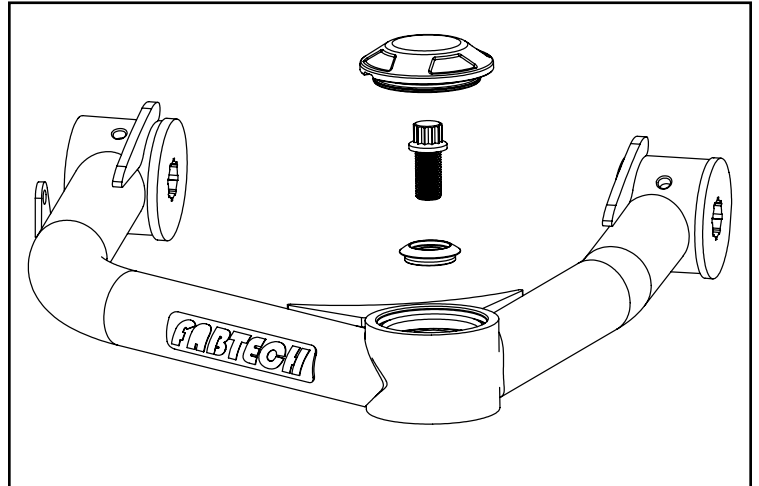

FIGURE 39 - STEP 31
31. Attach the new upper control arm to the knuckle by inserting the FT90152 (Upper misalignment) into the uniball bearing then the 1/2-20 - 12 point bolt. Torque to 120 ft-lbs. Install FT90154 (Bearing cap). **SEE FIGURE 39**